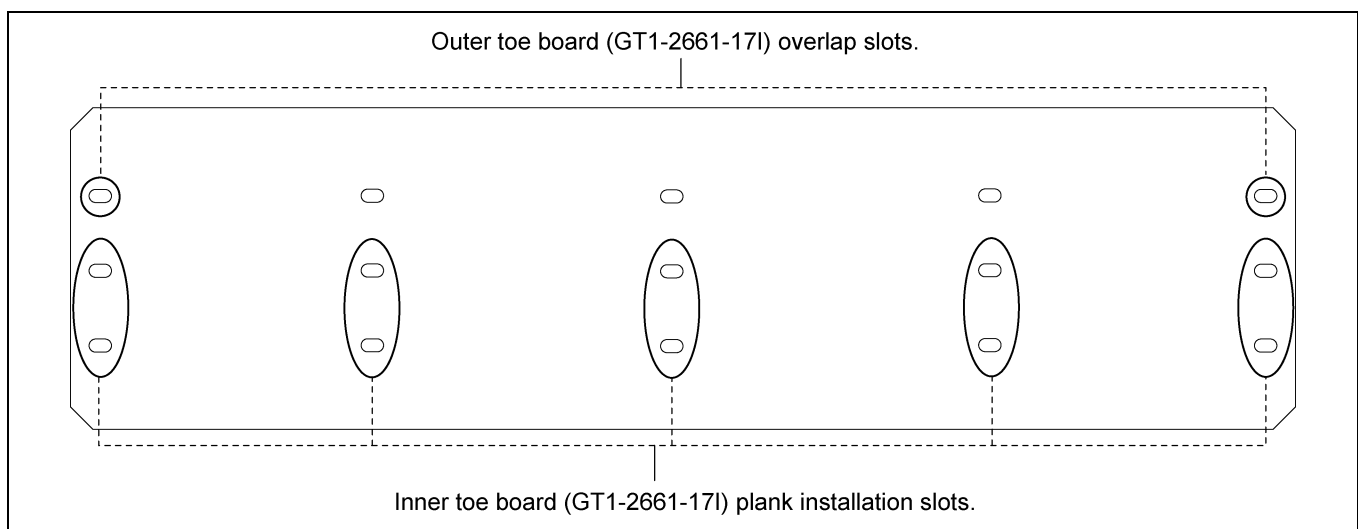

Figure 5K 17' Inner Toe Board (GT1-2661-17I)
3. Inner toe board is arranged with overlap slots on each side and plank installation slots. Install 17' inner toe boards (GT1-2661-17I) to corresponding overlap and plank installation slots as shown in Figure 5K